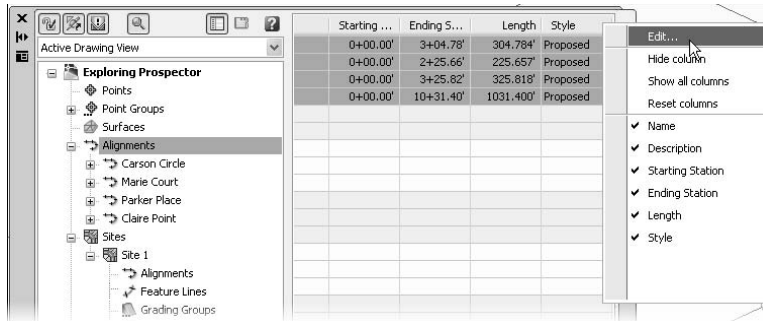

Figure 1.9
14. Right-click the Style column header as shown in Figure 1.9 and select Edit to bring up the Select Style dialog.